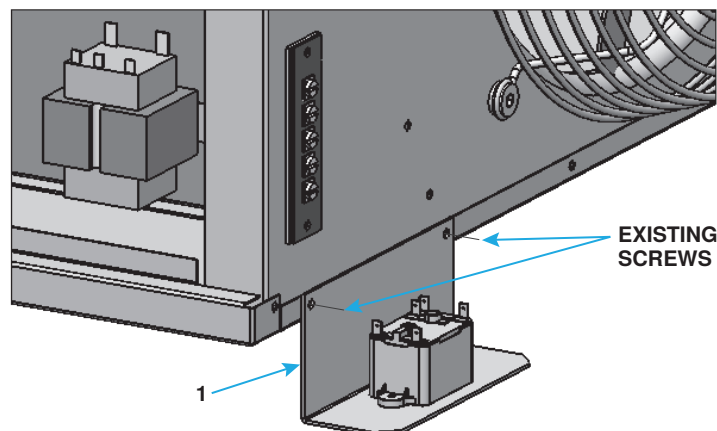

Figure 3. Relay Installation—Model EUH (Refer to Table 1)
a. For electric unit heater model EUH (see Figure 3):
- (1) At rear of heater, remove and save screws from edge of cabinet bottom.
- (2) Secure relay assembly (1) as shown using existing screws.